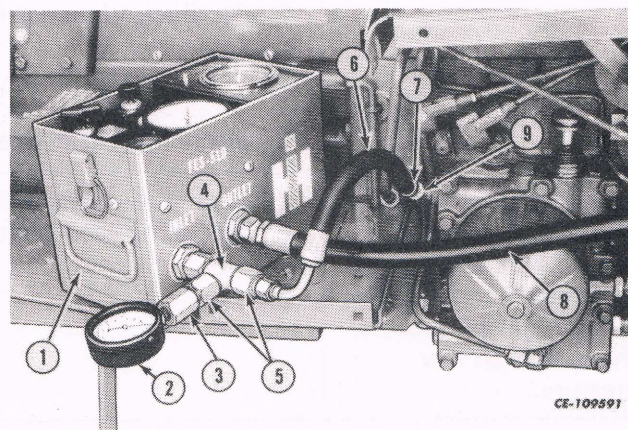

Fig. 55
1. Hook up the Flo-rater PLT-863 (1) as shown in Fig. 55. Connect the inlet line of the flo-rater to the oil cooler outlet port (9, Fig. 55) in the MCV. Connect the outlet line of the flo-rater to the rear frame filler hole.
3. With the restrictor valve of the Flo-rater (1) fully opened, operate the engine at 1000 rpm. Restrict the Flo-rater until a 414 kPa (60 psi) reading is obtained on the PLT-860-4 gauge (2) which is teed to the inlet. Flow through the Flo-rater must not drop below 7.571 l (2 gpm). See Fig. 55.